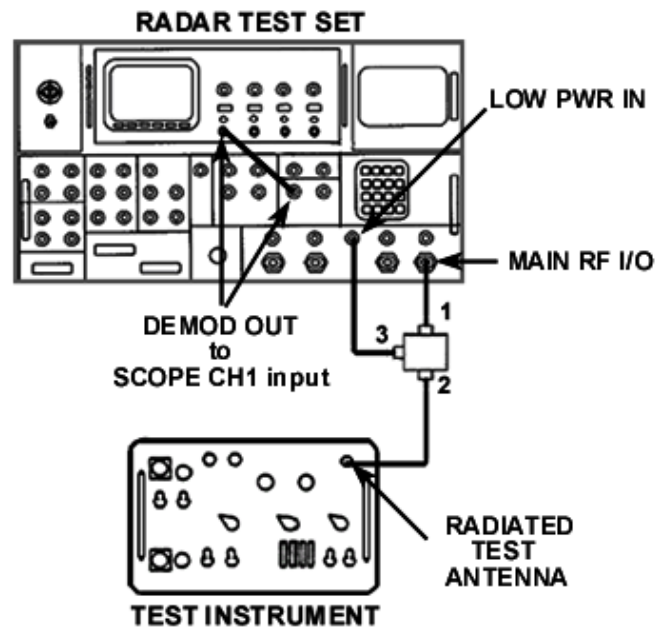

Figure 3. Transmitter frequency/pulse – equipment setup.
- (1) Connect equipment as shown in figure 3.
- Connect equipment as shown in figure 3.